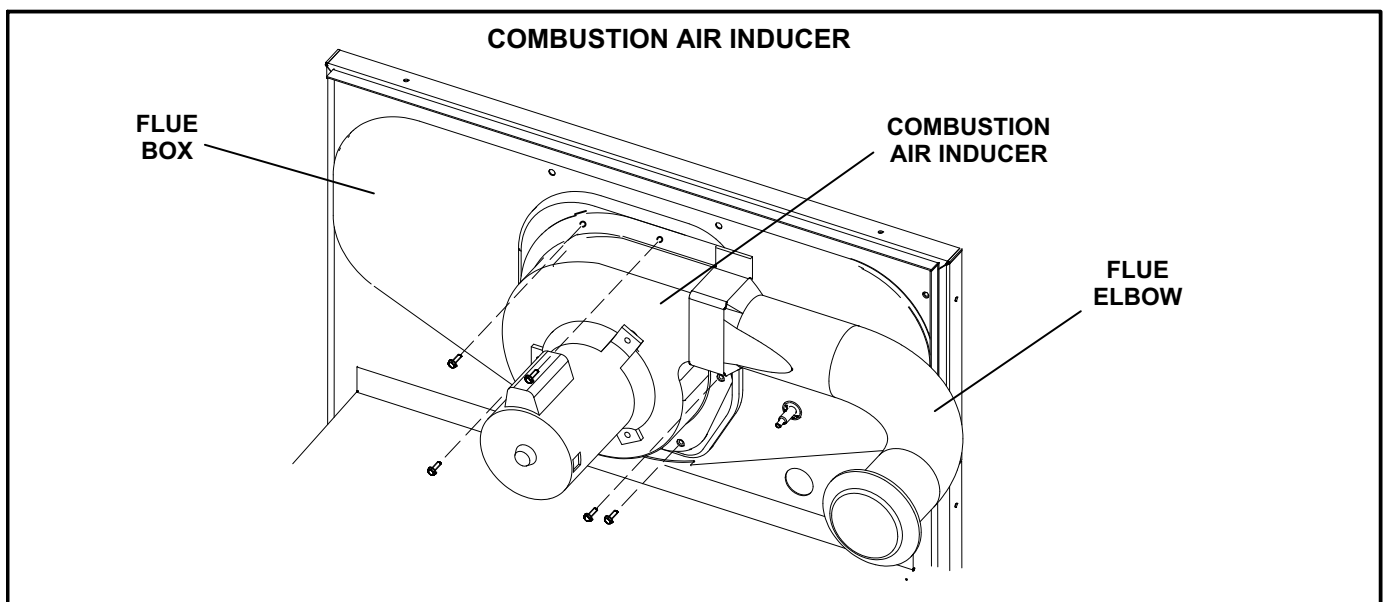

FIGURE 9
- 2- Remove screws securing combustion air inducer to flue box. Remove combustion air inducer. See figure 9.